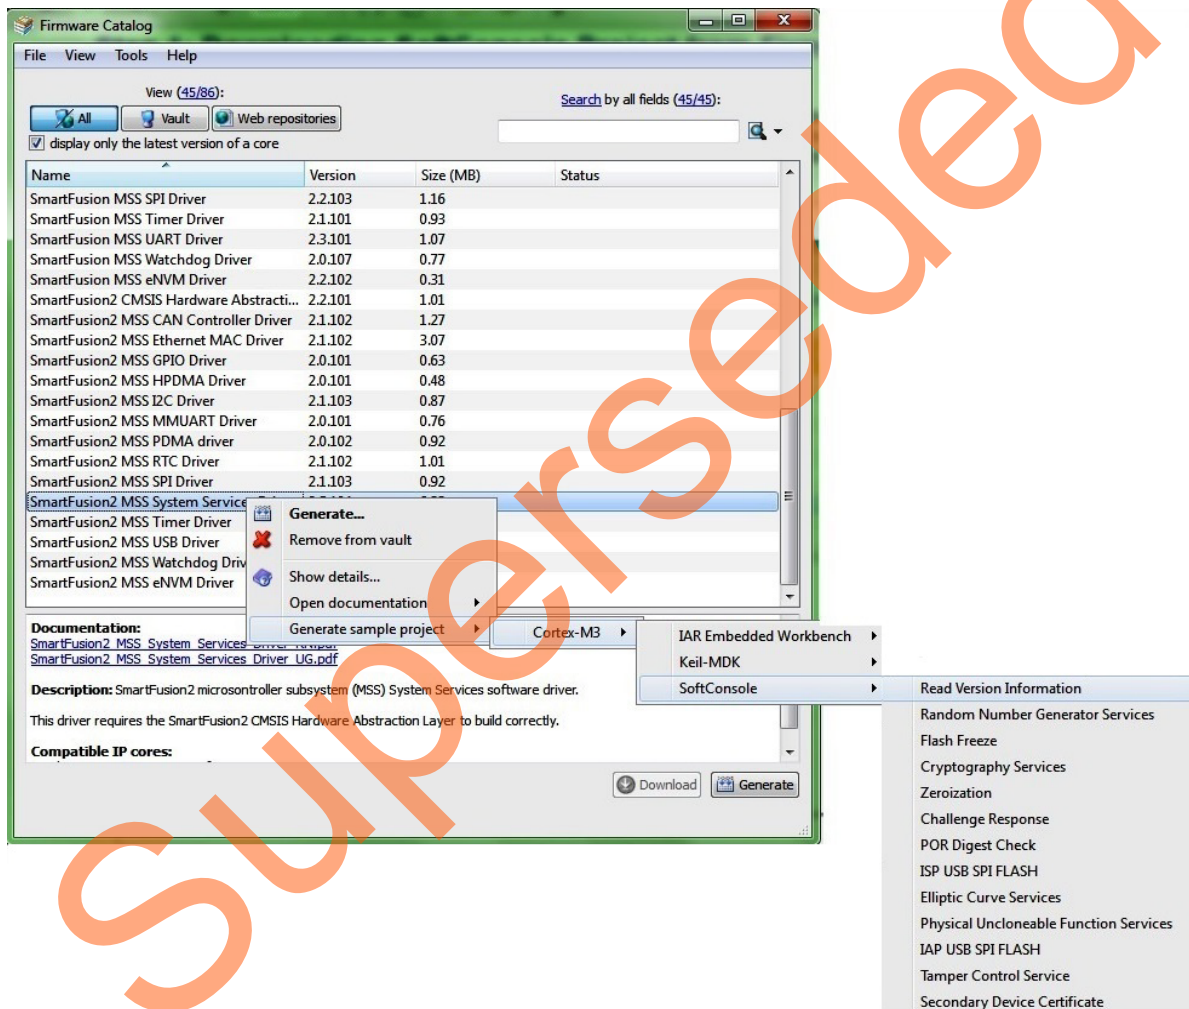

Figure 1 • Downloading Sample Project from Firmware Catalog
1. Click **Start > Programs > Microsemi SoC Libero SoC 11.5 > Firmware Catalog v11.5 > Firmware Catalog**. This opens **Firmware Catalog** windows as shown in Figure 1.
2. Right-click on **SmartFusion2 MSS System Services Driver** and select **Generate Sample Project > Cortex-M3 > SoftConsole > Read Version Information** as shown in Figure 1.